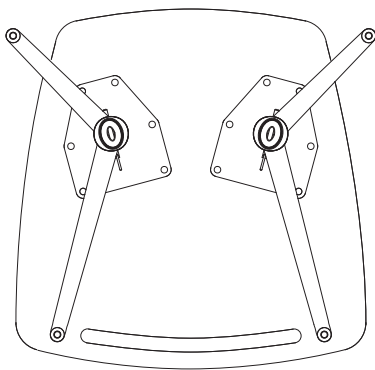

Figure 4 - Monitor Stand
2. Unpackage the base and refer to the illustration to the left for proper base/leg orientation. Set the base in place on the underside of the worksurface aligning attachment holes with threaded inserts in the worksurface tops as shown (Figure 4).